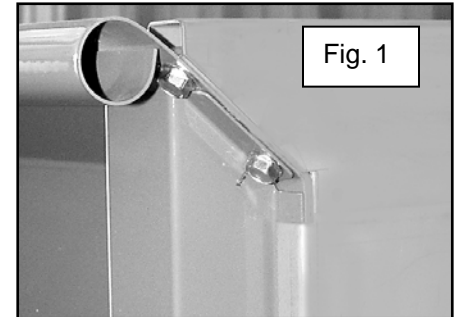

Fig. 1
1. Begin with one bed side and the front bed panel. Bolt the front bed panel's top angled flange to the top side of the bed side with (2) 5/16"-18 x 3/4" indented hex head bolts from the front bed panel mounting bolt kit. See figure 1.
2. Bolt the front bed panel to the other bed side with (2) 5/16"-18 x 3/4" indented hex bolts. The side flanges of the front bed panel should be on the outside of the bed sides. See figure 1.